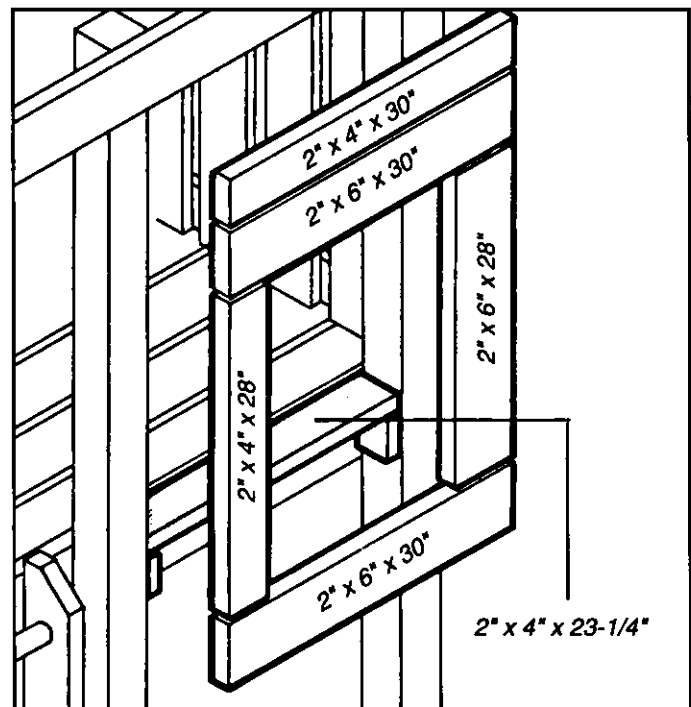

Fig. 2 Eagle's Nest Clubhouse, Covered Wagon Corral
- This step is required for the Eagle's Nest Clubhouse and Covered Wagon Corral only.** Assemble the additional deck area (shaded boards, Fig 2) using two 2" x 4" x 5" supports and one 2" x 4" x 23-1/4" deck board. Attach each support to the unit approximately 1-1/2" lower than the top of the existing deck using four 16D galvanized nails per board. Attach the deck board with two 16D galvanized nails at each end. **Note:** Blunt the tips of nails to avoid splitting the wood.